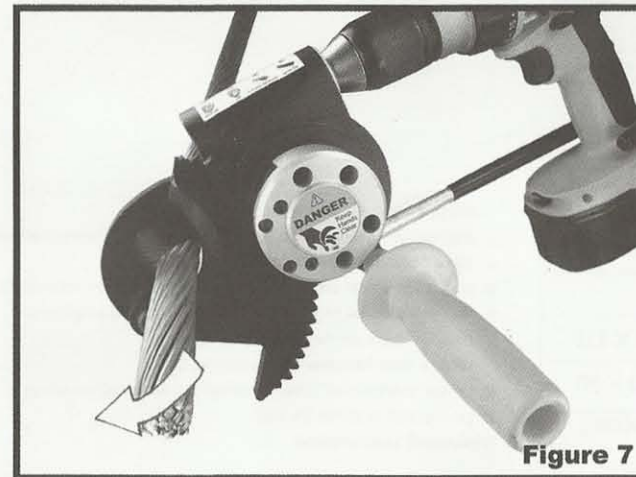

Figure 7
**STEP 7:** To cut several small cables continuously, cut first cable as described above, then reverse blade until opening is sufficient to feed the next cable through. Continue to alternate between forward and reverse modes until all cables are cut (Figure 7).